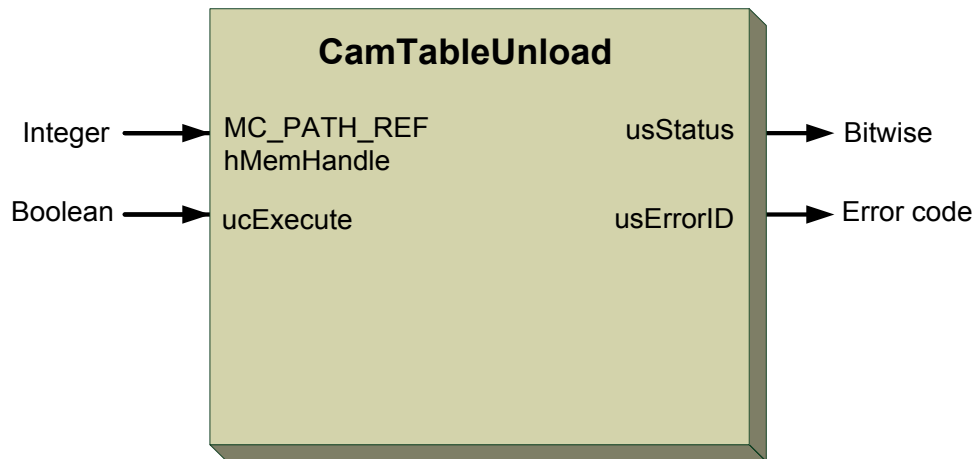

Figure 7-13: MMC\_UnloadTable function
**Figure 7-13** describes the function for MMC\_CamTableAddCmd as applied within the IEC 61131 programming.